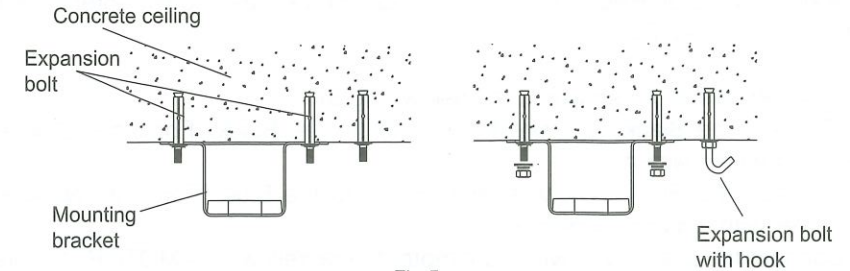

Fig.5
6. Secure the mounting bracket to the concrete ceiling or structure that is capable of carrying a load of at least 40kg, with expansion bolt provided.(Fig.5)